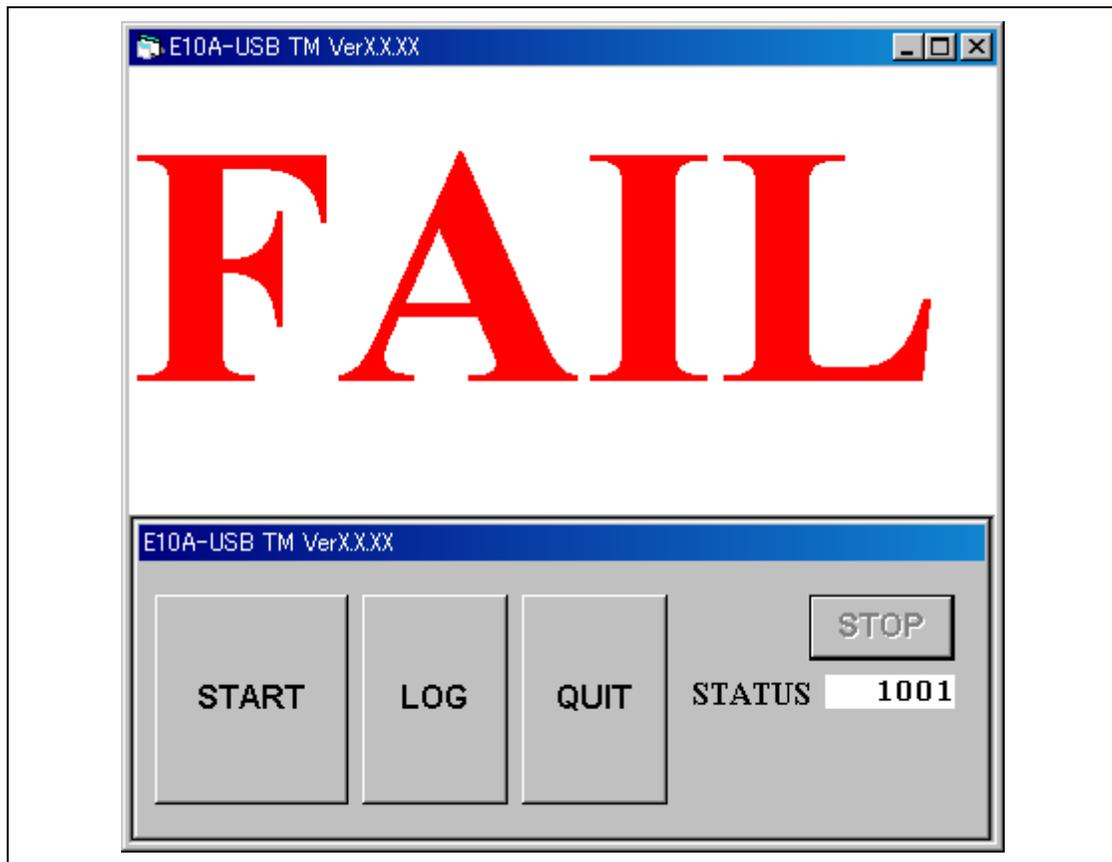

Figure 13 Status Number 1001 (Example)
- (5) If the message “FLASH MEMORY TEST is failed” is displayed and the error status is 1001 as shown in figures 13 and 14, the E10A-USB emulator test program or the E10A-USB emulator firmware may be an old version. Download updates for the E10A-USB emulator firmware and/or the E10A-USB emulator test program. For the method to update the E10A-USB emulator firmware, refer to section 3.10, Setting up the Emulator, in the Debugger Part of the E10A-USB Emulator User's Manual.